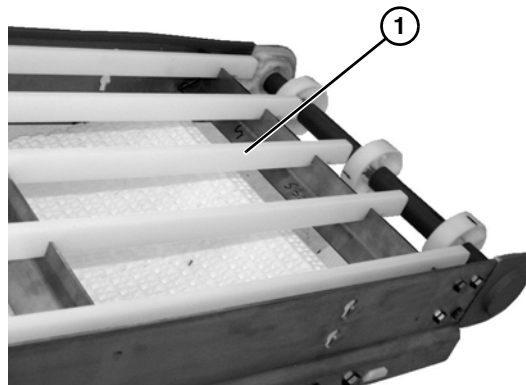

**Figure 47**
1. Remove worn bar cap (**Figure 47, item 1**) by lifting off of conveyor side rail.